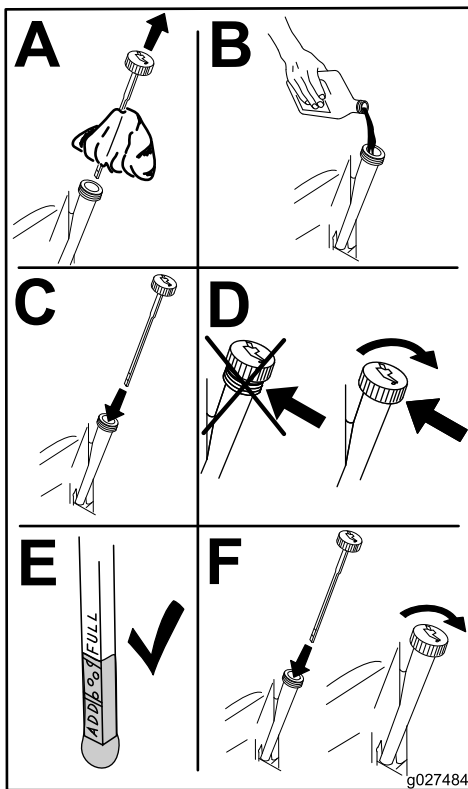

Figure 34
4. Slowly pour approximately 80% of the specified amount of oil into the fill hole (Figure 34).